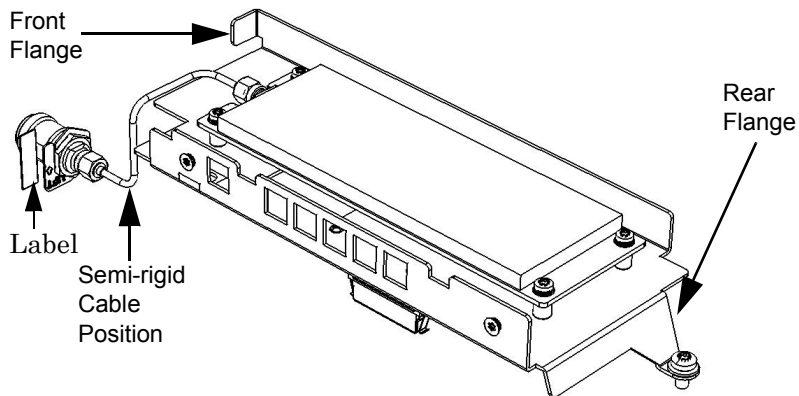

Figure 4-16. 53220A/53230A Option 106/202.
Refer as necessary to Figure 4-16.
- 13 Connect the supplied semi-rigid cable to the SMA connector on the connector-adapter. Finger-tighten the connector so that the cable is positioned to connect to the Channel 3 assembly as shown in Figures 4-16 and 4-20. Do not tighten the nut with a wrench yet.